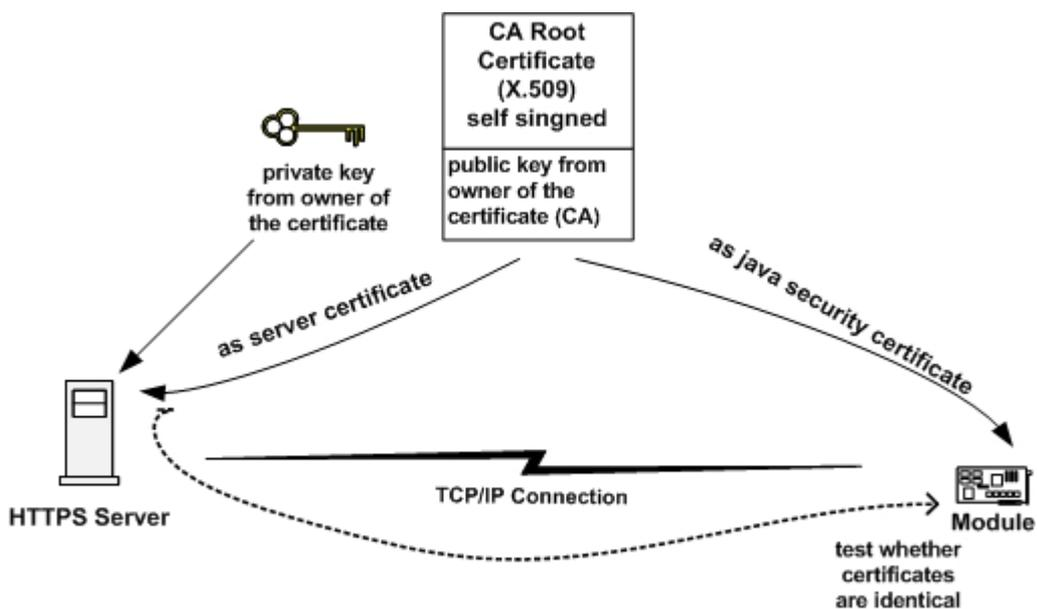
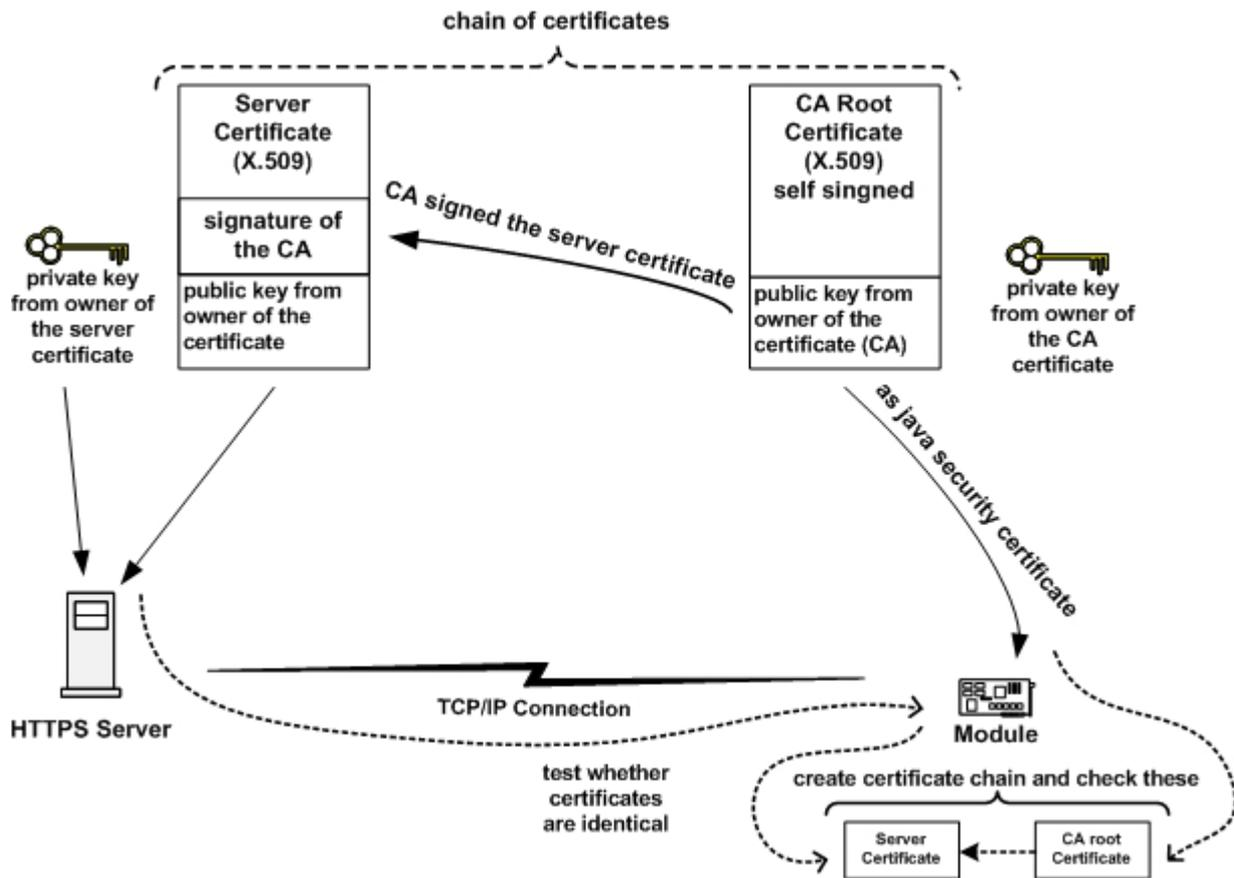

Figure 55: Mode 2 - Server Certificate and Certificate into module are identical
Figure 56: Mode 2 - Server Certificate and self signed root Certificate in module form a chain
- The server certificate is examined when setting up a connection. Two configurations are valid. The server certificate is identical to the certificate in the module (both certificates are self signed root certificates) or the server certificate forms a chain with the certificate of the module. Thus the authenticity of the server certificate can be examined with the help of the certificate of the module. See Figure 55 and Figure 56.